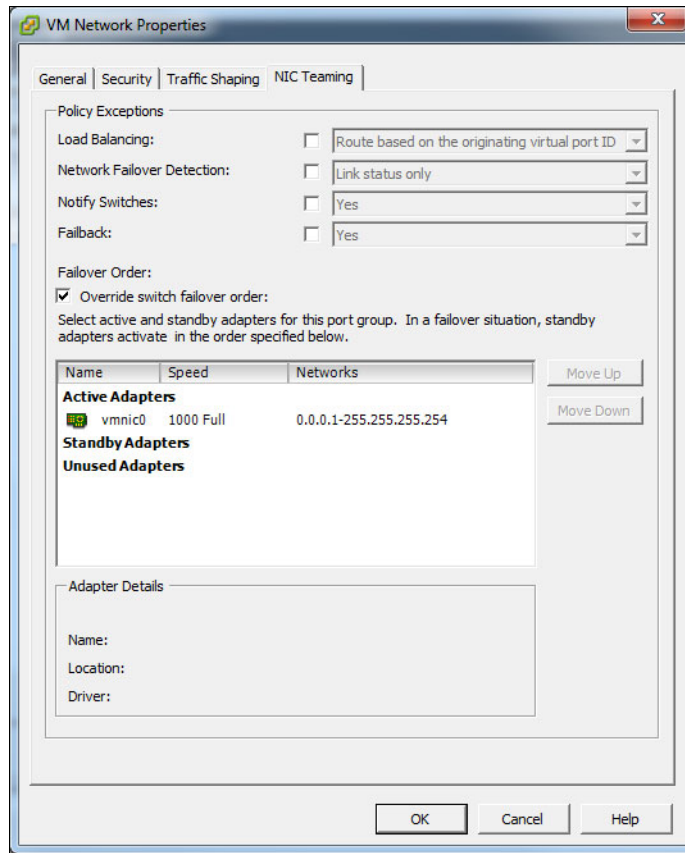

Figure 7-48 VM Network Properties: NIC Teaming
- b. On the NIC Teaming tab, select **Override switch failover order**, as shown in Figure 7-48.